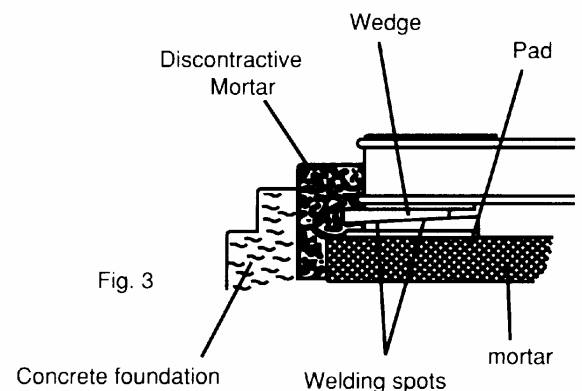

Fig. 3
- Sole plate or common bed should be embedded in concrete foundation as illustrated in Fig. 3. Stiff pads should also be installed beneath the wedges, which are welded together at various spots about 400-500mm (15.75-19.70 inches) apart etc., to enable the foundation to carry evenly the weight of the whole motor.